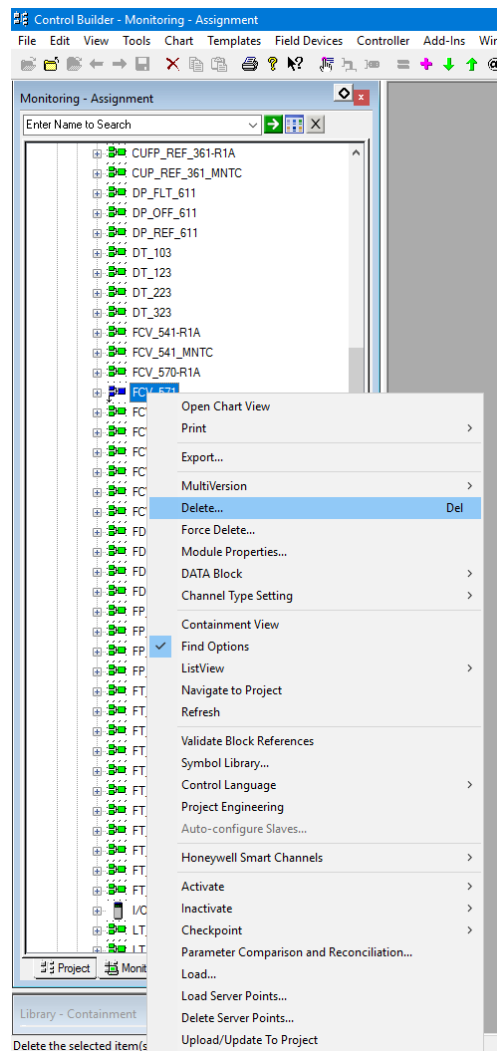

Figure 10: Deleting FCV_571 CM (Step 2).
2. Select 'Delete' from the drop-down menu (*Figure 10*).